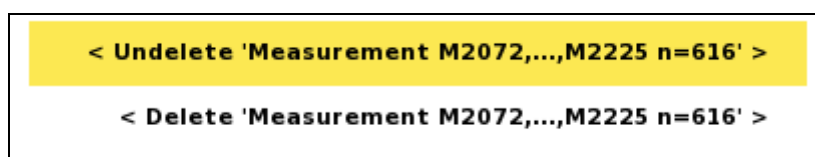

Figure 60. Undelete/Delete data points Option menu
- Highlight “<Undelete ‘Measurements Mxxx,...,Mxxx n=xxx’>” (Mxxxx represents a measurement id) (Figure 60)